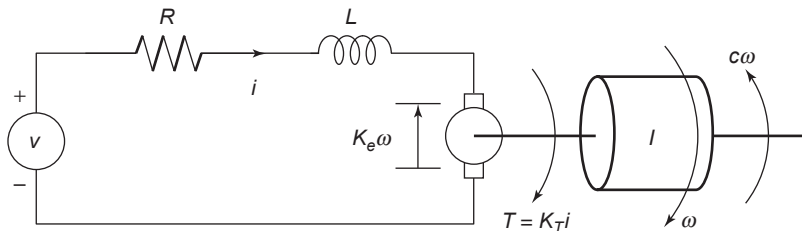

Figure P13
- The equations for the armature-controlled dc motor shown in Figure P13 follow. The motor's current is  $i$ , and its rotational velocity is  $\omega$ .